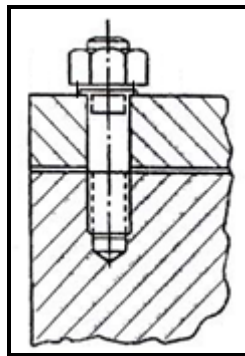

FIGURE 1.10
- 1.10 Identify the item in FIGURE 1.10 below.